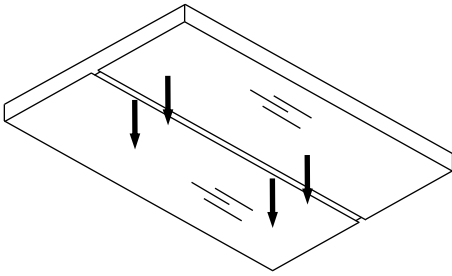

Fig 8
5. Pull down at from the middle of the extractor to open both doors. If it is the 120cm Verdi only pull down the middle section (Fig 8).